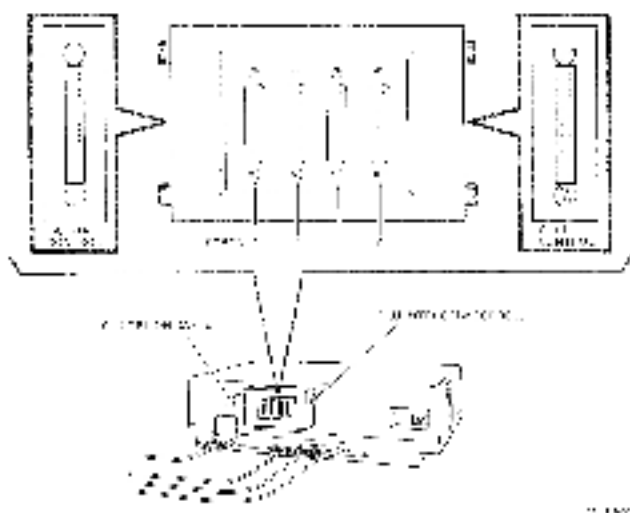

Figure 1-7 SLU Configuration and Cabling
The four I/O ports on the SLU interconnect box provide a modem control selection capability as follows (Figure 1-7):
3. To change the modem control configuration, plug the option cable into the corresponding side connector in the interconnect box. (See Figure 1-7.)
1. Because the option cable is short, and to make the modem control selection easier and safer, the side connector on the interconnect box should face the left. Everytime you change SLU configuration, turn the box 180 degrees to have the required connector on the left side of the box (Figure 1-7).
2. Notice the orientation of the 25-pin port connectors on the interconnect box in relation to the SLU configuration selection (Figure 1-7).